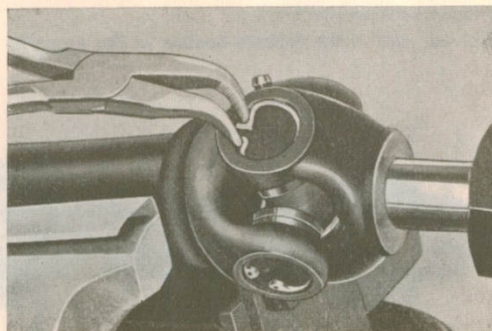

Fig. 4-4. Removing the snap rings
1. Remove the snap rings (10) retaining the needle bearings in the yokes, see Fig. 4-4. Remove the lubricating nipple from the cross.